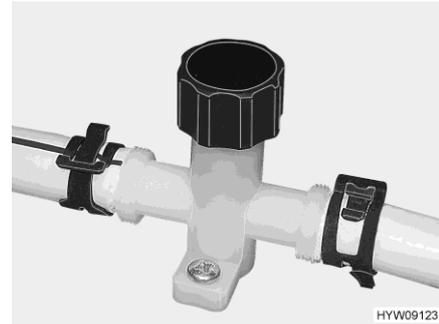

Fig. 98 Drain cock (water pipe)
- Close all drain cocks (Fig. 98). To do so, close the caps by turning them in a clockwise direction and set the rocking lever in a horizontal position. The safety/drainage valve and the drain cocks are installed in the bench box or under a floor trap.